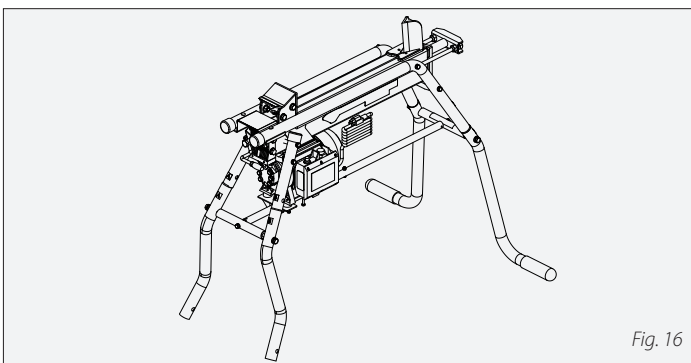

Fig. 16
After attaching the central rod to the legs, all hardware shall be tightened using appropriate size wrenches. See **figure 16**. The height of the motor support bracket (8) must now be adjusted, such that the motor rests on the upper motor support. See **figure 17**.